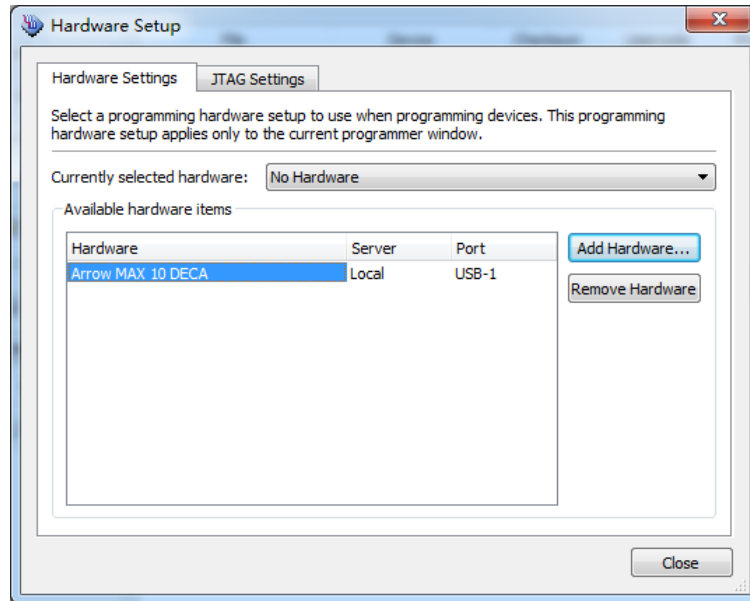

Figure 8-16 Hardware Setup window
2. Click **Hardware Setup** and then select the Arrow MAX 10 DECA as shown in **Figure 8-16**.